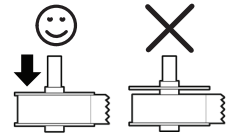

Figure 6
- The label spool guide must be pushed flush against the label roll, with no gap. See Figure 6.
- Slide the spool guide onto the right side of the spool and press the guide tightly against the side of the label roll, **leaving no gap** between the roll and the spool. See Figure 6.